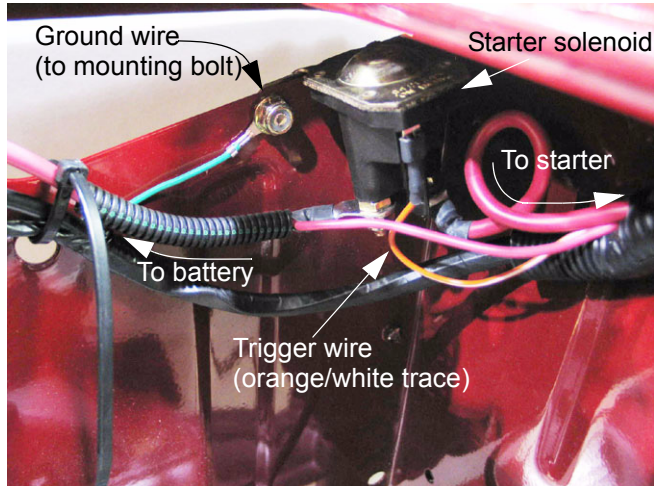

Figure 17.30
17.30. The **starter solenoid** is mounted at the left rear corner of the frame. The mounting bracket is visible beneath the left fender, and the solenoid itself is accessible by removing the battery. See Figure 17.30.